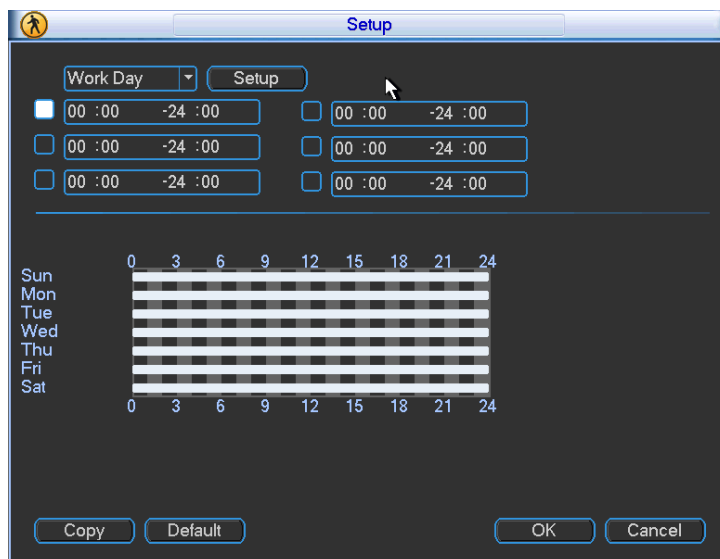
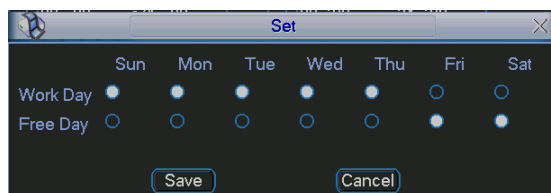

Figure 4-35
Figure 4-36
- Period: Click set button, you can see an interface is shown as in Figure 4-35. Here you can set for business day and non-business day. In Figure 4-35, click set button, you can see an interface is shown as in Figure 4-36. Here you can set your own setup for business day and non-business day.